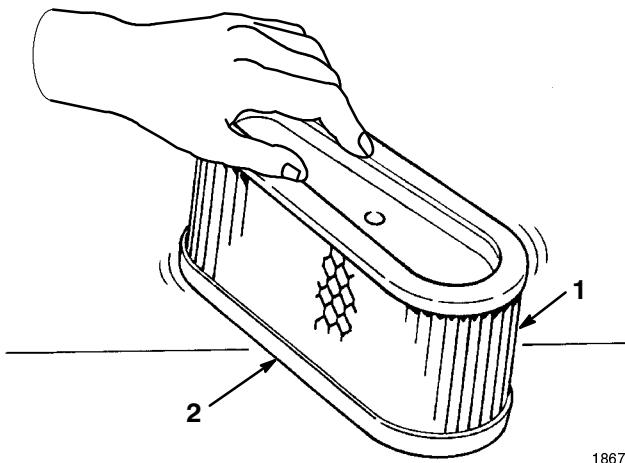

Figure 30
- Lightly tap the element on a flat surface to remove dust and dirt (Fig. 30).